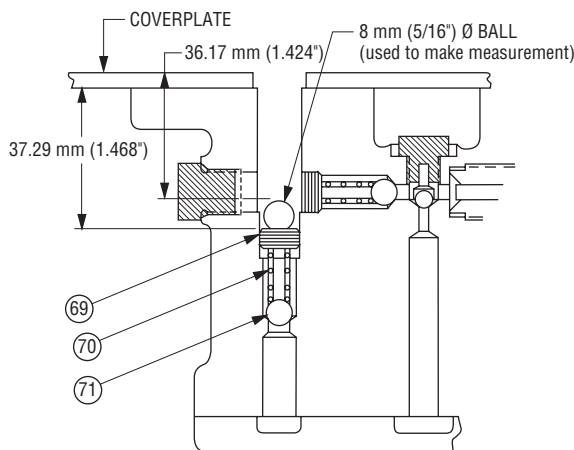

Figure A5 ④
Low-pressure bypass check valve is set incorrectly.	See “Hydraulic Schematic” (4). If set too low: The pump cannot shift to the high-pressure stage. See “Pressure Adjustment for the Low-Pressure Bypass Check” and Figure A5 in the “Service” section of this manual. If set to high: The pump cannot restart under pressure. See “Pressure Adjustment for the Low-Pressure Bypass Check” and Figure A5 in the “Service” section of this manual.
When properly set to the dimension shown in Figure A5, the high-pressure stage operation of the pump is delayed approximately 1 second after the motor starts. This delay is created by the closing time of the pilot-operated valve.